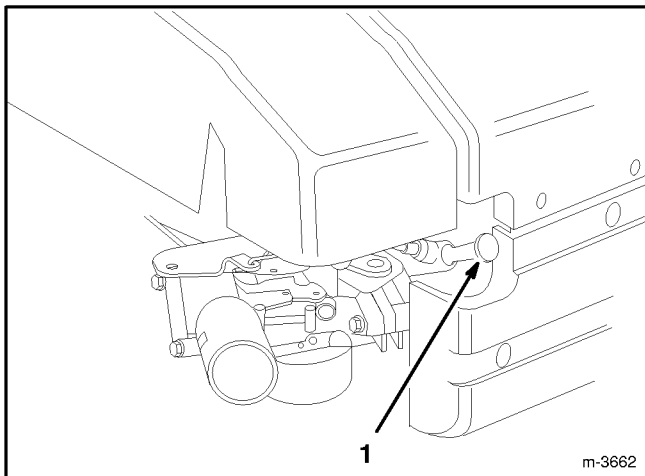

Figure 12
1. Push spark plug wire onto spark plug (Fig. 12).
1. Stop engine and pull wire off spark plug (Fig. 12). For electric start model, remove key from switch.
1. Stop engine and wait for it to cool. Pull wire off spark plug (Fig. 12). For electric start model, remove key from switch.
1. Stop engine and wait for engine to cool. Pull wire off spark plug (Fig. 12). For electric start model, remove key from switch.
3. Pull wire off spark plug (Fig. 12). Remove key from switch on electric start model.